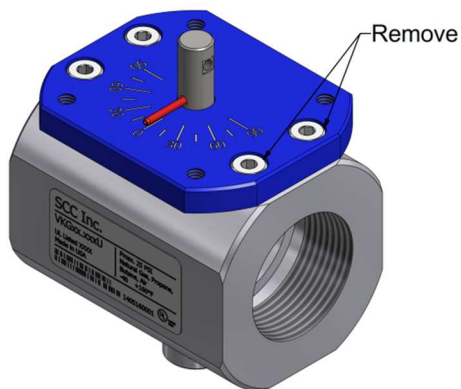
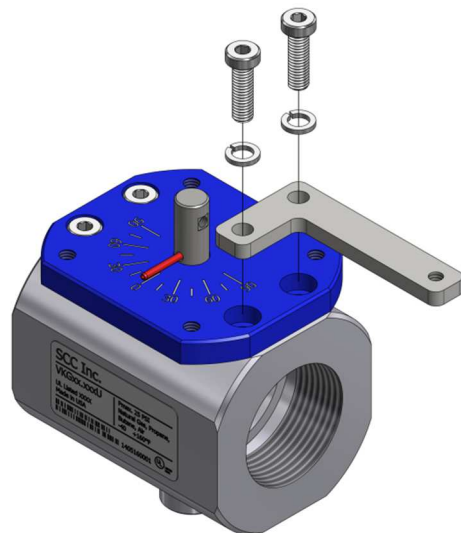

Figure 2a: Remove M6 Socket Cap Screws
Figure 2b: Mounting Bracket Installation
1. Using a 4mm hex key, remove the two M6 x 10mm screws shown in Figure 2a below. Save the two M6 split lock washers and discard the screws. Using these lock washers along with the two M6 x 20mm low head socket cap screws, install the mounting bracket in the orientation shown in Figure 2b below.